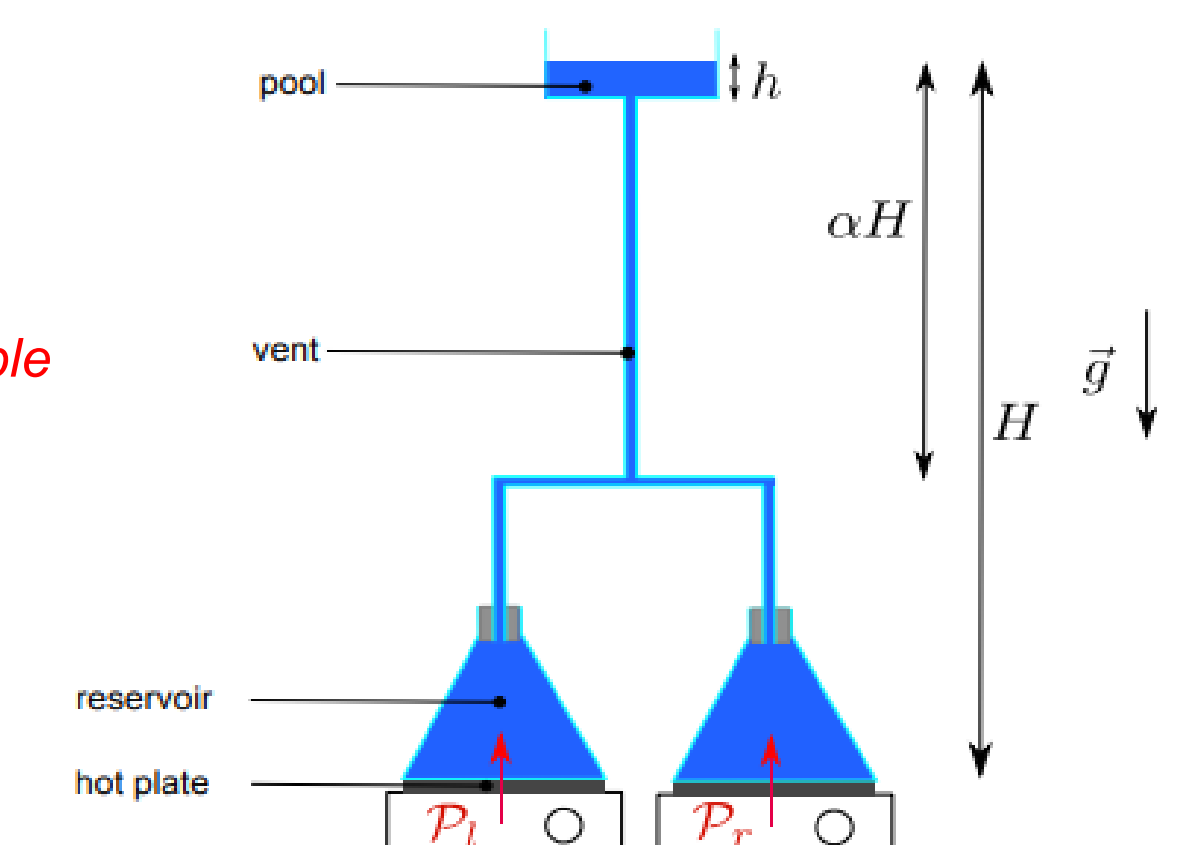

Figure 5: Example of a possible future physical model.
- Modify the physical model to get closer to real-life scenarios (*Fig. 5*).